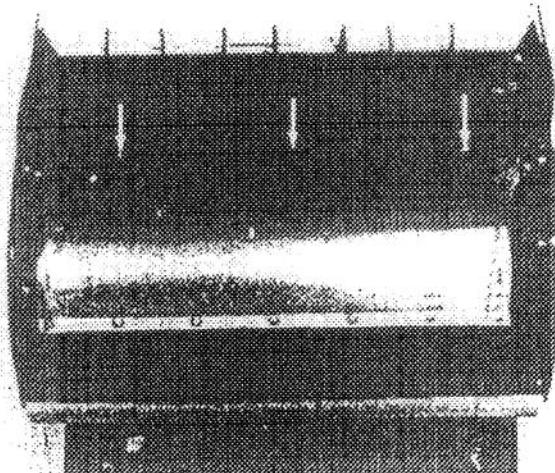

Figure 20
1. Remove three screws holding front of shroud to impeller housing (Fig. 20).
9. Secure front of shroud to impeller housing with three  $\frac{3}{8}$  inch long (19 mm) screws (Fig. 20).